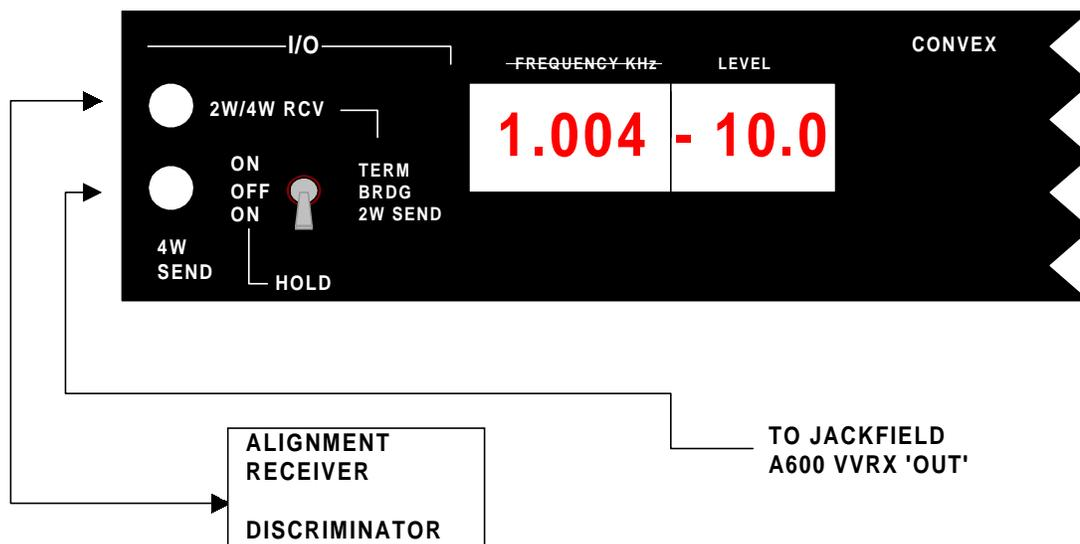

Figure 9 - Transmission Test Set
7. Insert a 1000 Hz tone at - 10 dBm into Jackfield **A600 VVRX 'OUT'** using the **Transmission Test Set** for the channel under test (*Figure 9*).